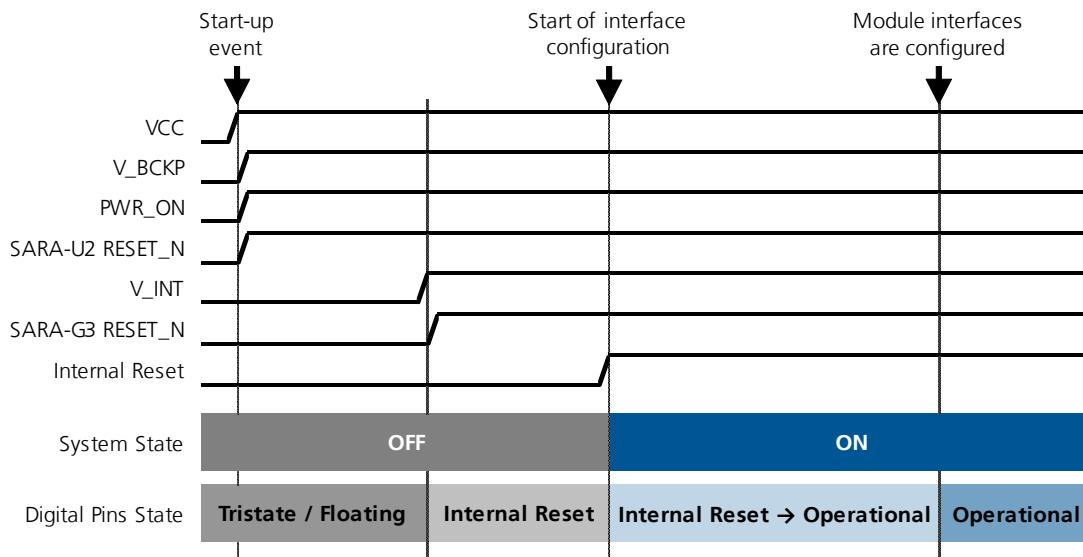

Figure 18: SARA-G3 and SARA-U2 series power-on sequence from not-powered mode
Figure 18 shows the modules power-on sequence from the not-powered mode, describing the following phases:
- The status of the **PWR_ON** input pin while applying the **VCC** module supply is not relevant: during this phase the **PWR_ON** pin can be set high or low by the external circuit, but in Figure 18 it is assumed that the **PWR_ON** line rise suddenly to high logic level due to external pull-up connected to **V_BCKP** or **VCC**.